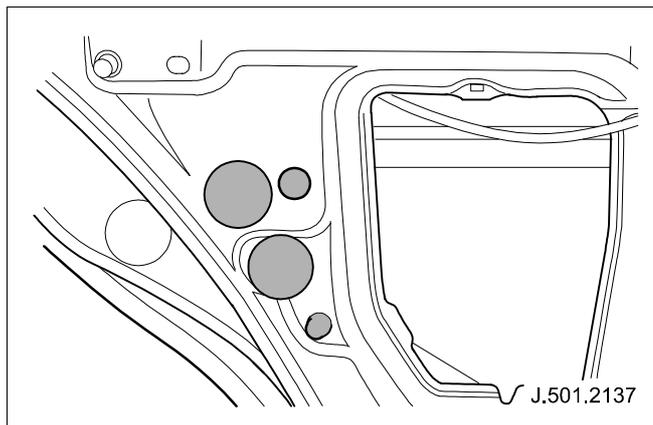

Fig. 12
- 4 Door sealing patches. (See Fig. 12)